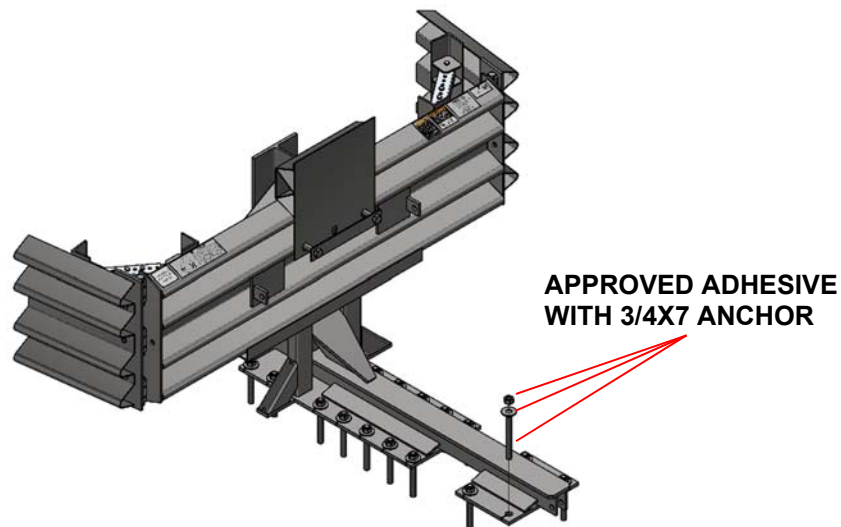
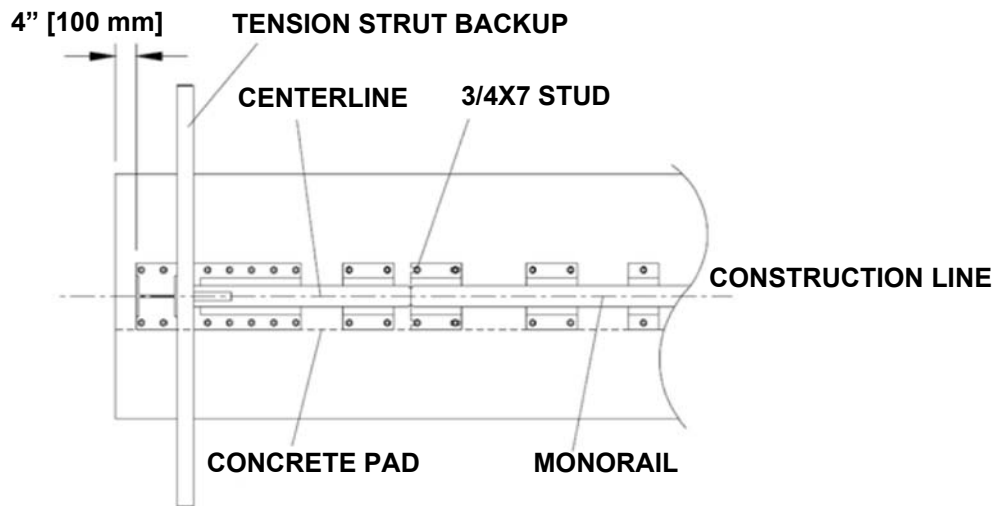

Figure 18
Figure 20
See Figure 18 (showing Backup Assembly) and Figure 20 (showing Monorail deployment). Also refer to the drawing package and the approved anchoring instructions (p. 16).
Step 1. Tension Strut Backup Assembly (Figure 18)
Locate the Backup and Monorail on the pad with the side of the Monorail on the construction line (Figure 20). Verify that applicable Transition Panels fit properly before anchoring the Backup. Drill 7/8" [22mm] diameter by 5 3/4" [146 mm] deep anchor holes in the pad using the Backup as a template. Do not drill through pad. Anchor the Backup to the concrete pad using approved adhesive kits (p. 16).
Locate the Monorail on the construction line as shown in the Monorail Assembly drawings. Drill 7/8" [22mm] diameter by 5 3/4" [146 mm] deep anchor holes using the Monorail as a template (Figure 20). Do not drill through the pad. Anchor each Monorail section using the provided approved adhesive kits (p. 16). It is important to attach each segment of Monorail in alignment from the back to the front of the system ($\pm 1/4$ " [6 mm]).